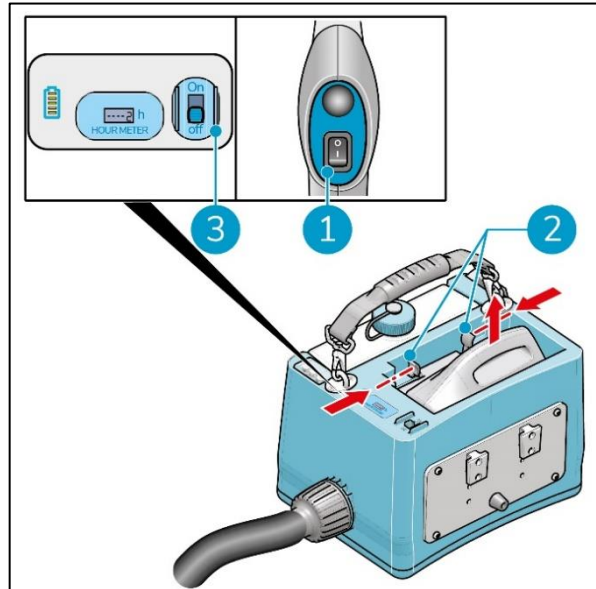

Figure 13
1. Press the ON/OFF switch on the spray gun (Figure 13, pos 1) to stop spraying.
2. Press the ON/OFF switch (Figure 13, pos 3) to turn off the i-cover® 1.0.
3. Slightly press the plastic clips of the battery (Figure 13, pos 2) towards each other.